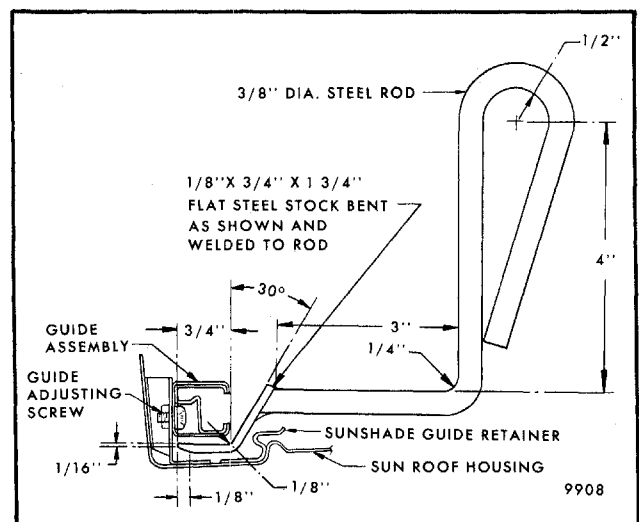

Fig. 8-64 - Sun Roof Guide Rail Adjustment Tool
1. To obtain a flush fit with the roof, insert adjustment tool under guide (Figure 8-64) 75 mm (3") rearward of screws and loosen two
NOTE: Adjustment tool can be made by bending a no. 3 cross-recess screwdriver or from 3/8" steel rod with flat steel stock welded to end as shown in Figure 8-64.